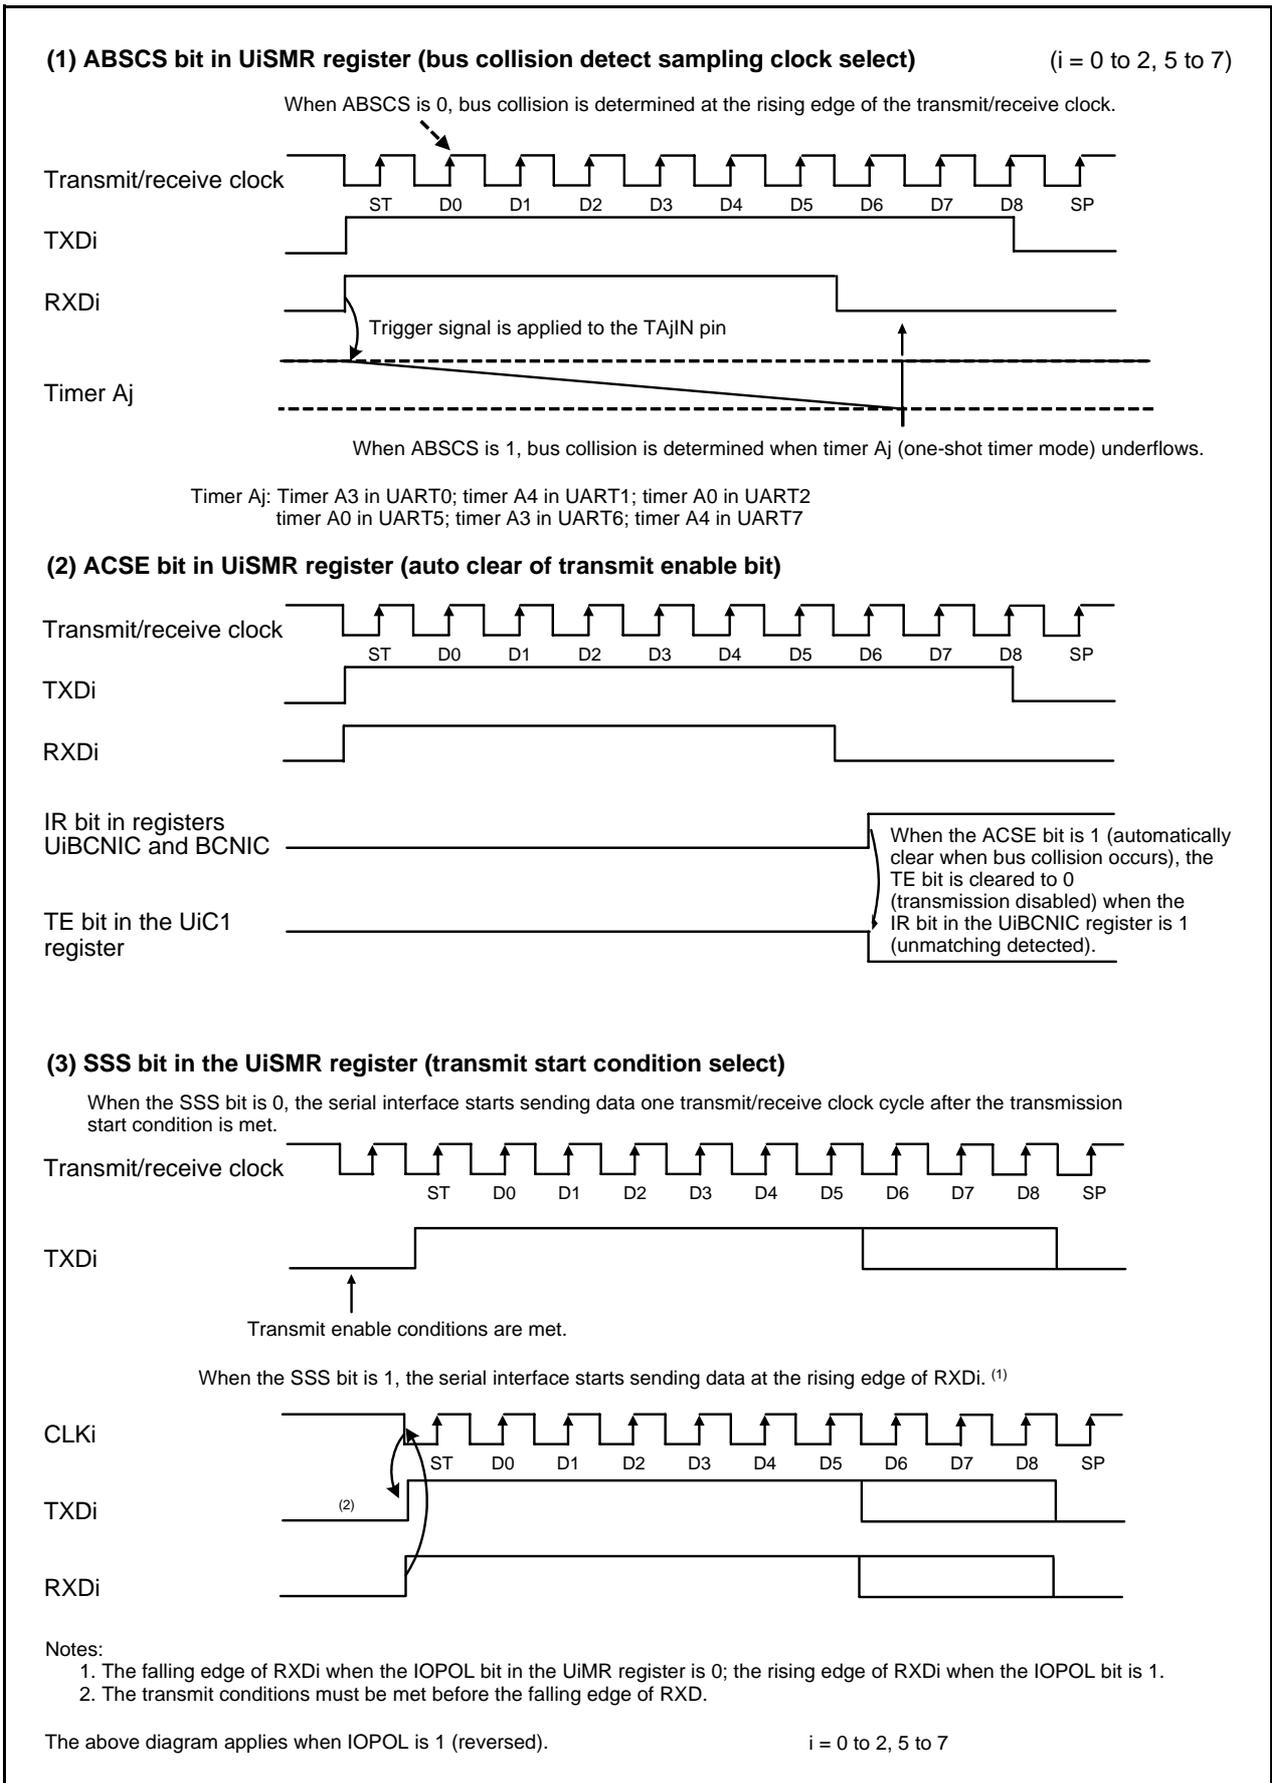

Figure 19.34 Bus Collision Detect Function-Related Bits
Table 19.23 lists the Registers Used and Settings in IE Mode (1). Figure 19.34 shows the Bus Collision Detect Function-Related Bits.